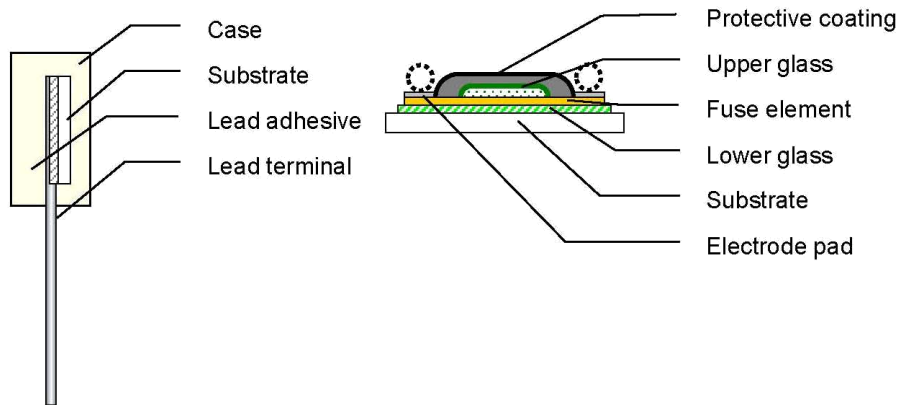

Fig. 7: Structure
- The fuses shall not be reconnected after cutting current. The source of an artificial satellite is electricity stored in its battery. If current continues flowing in an application where abnormality (short circuit) happens, all electricity is used up and other applications operating correctly do not obtain electricity. As a result, in case of an artificial satellite, the whole of a satellite is finally down. It is an important function to keep stable electric insulation of fuses after firing. Tateyama fuses have a design to form stable insulation by reacting with the upper glass during clearing activity (See Figure 7).